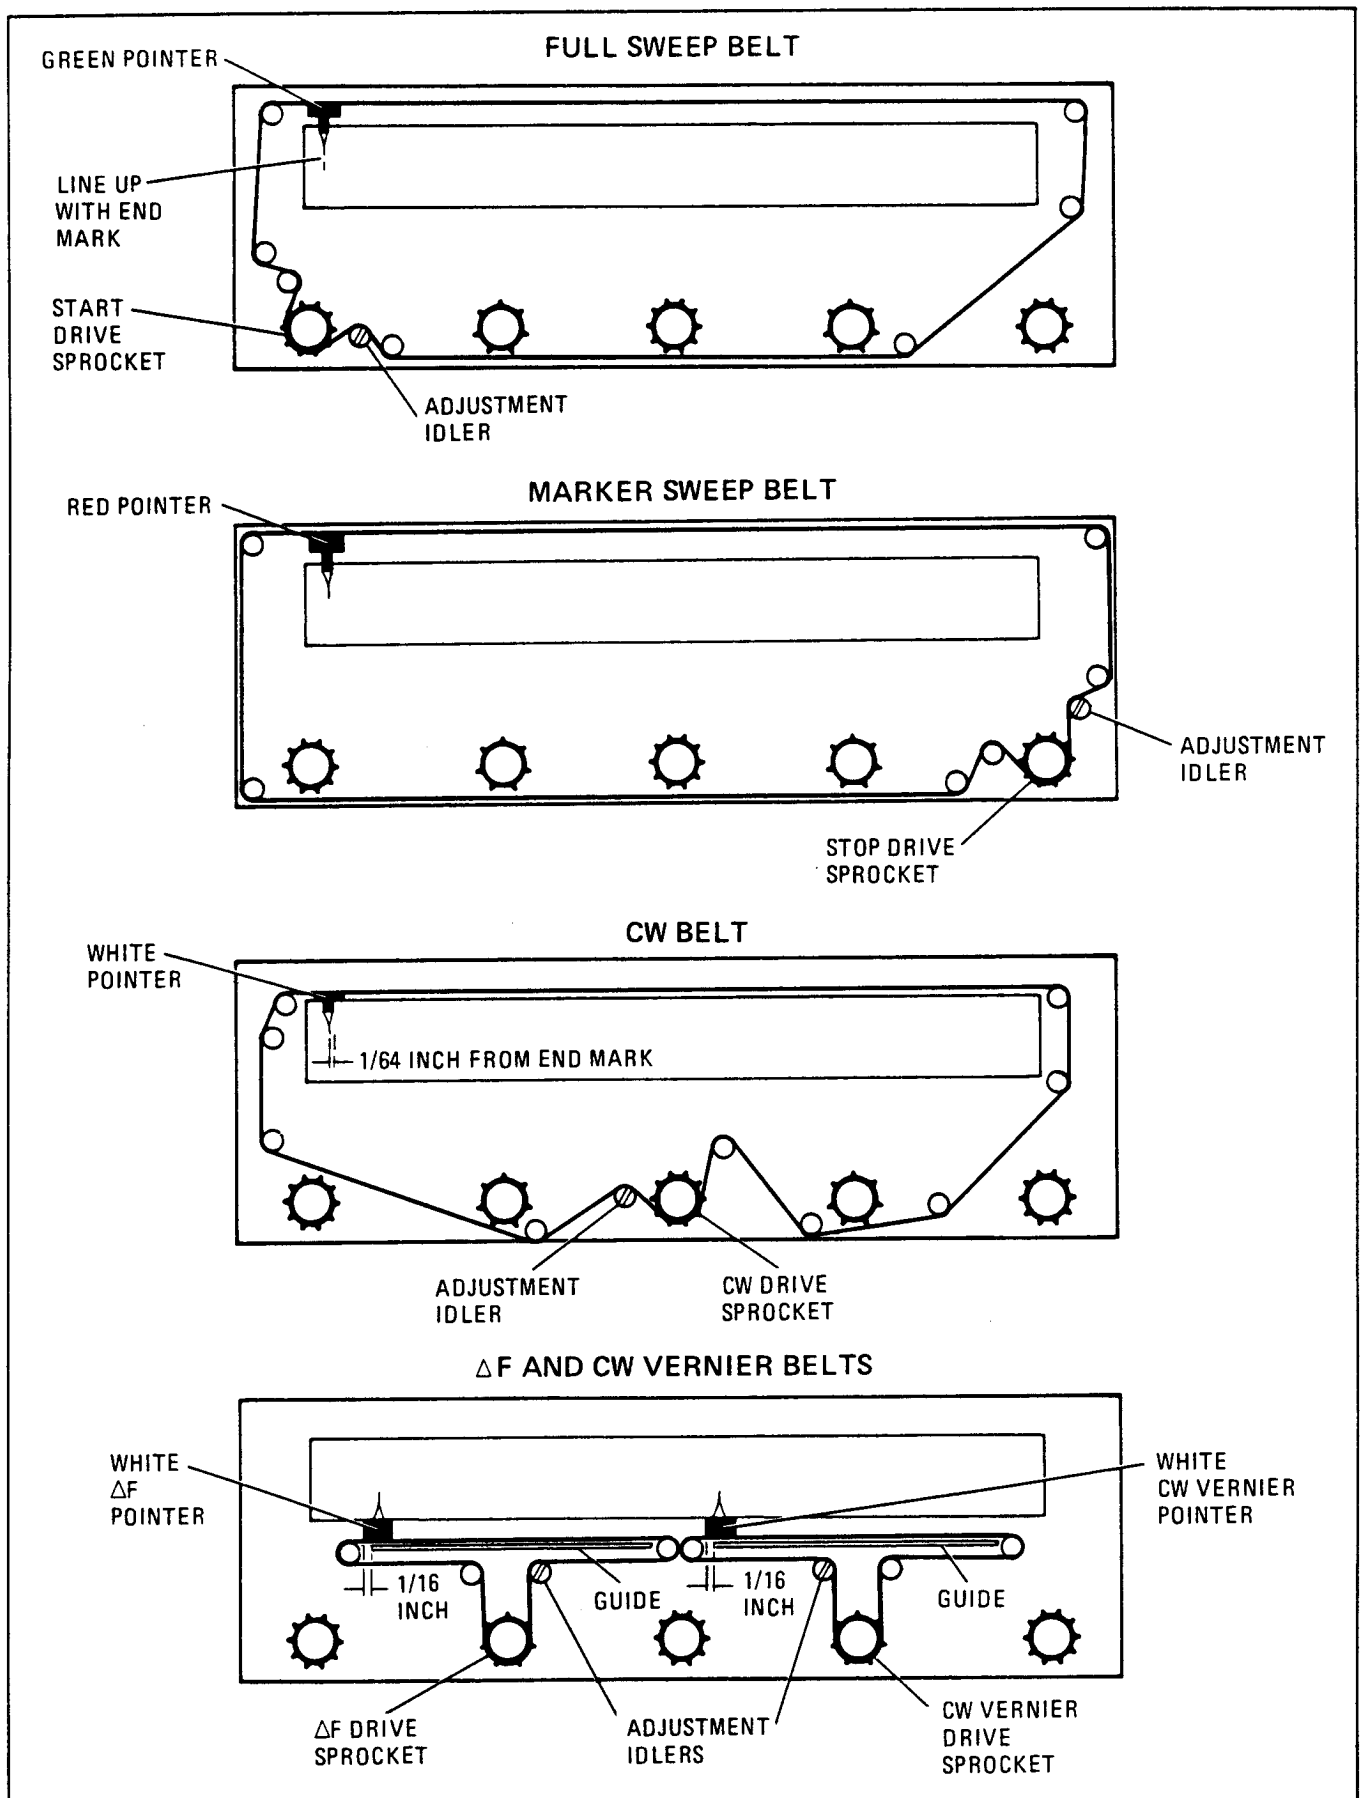

Figure 8-5. Pointer Belt Restringing Diagrams
- b. Loosen adjustment idler shown on restringing diagram in Figure 8-5 for belt being replaced.
5. Restraining belt as shown in Figure 8-5 and tighten belt with adjustment idler.
2. Restraining belt as shown in Figure 8-5 and tighten belt with adjustment idler.